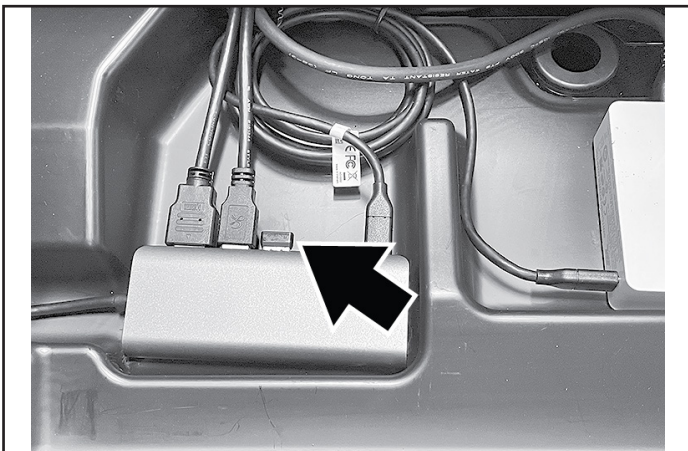

Figure 12
4. Insert the wireless keyboard/mouse USB transmitter into the USB-C hub (Figure 12).